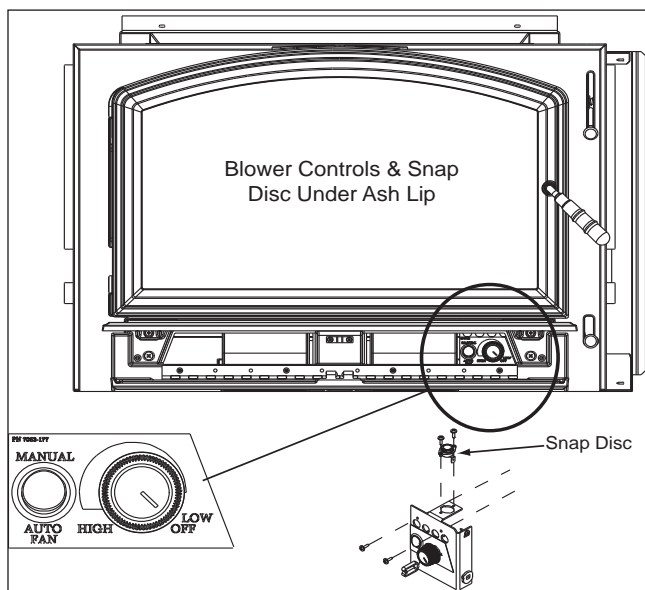

Figure 22.1 Snap Disc Location
3. Locate the snap disc bracket assembly behind the blower controls on the right side under the ash lip. **Figure 22.1**